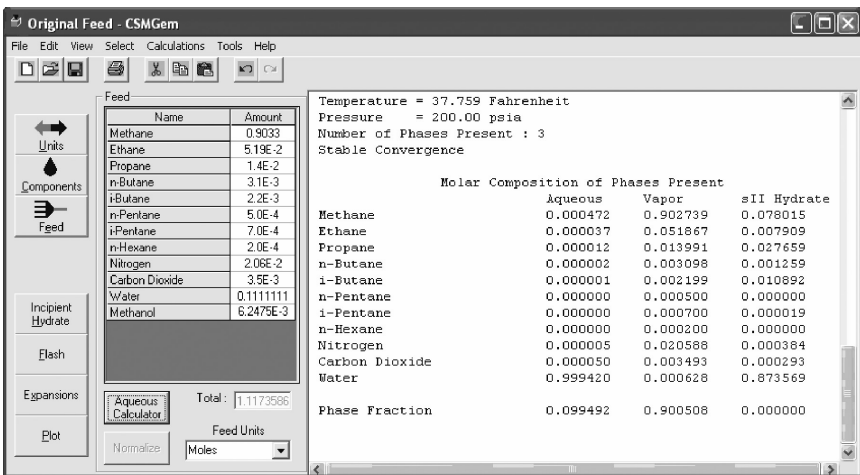

FIGURE A.5 Components list with methanol concentration at 0.1 g/g water.
3. Add a mass ratio of 0.1 g methanol/g water (see Figure A.5).